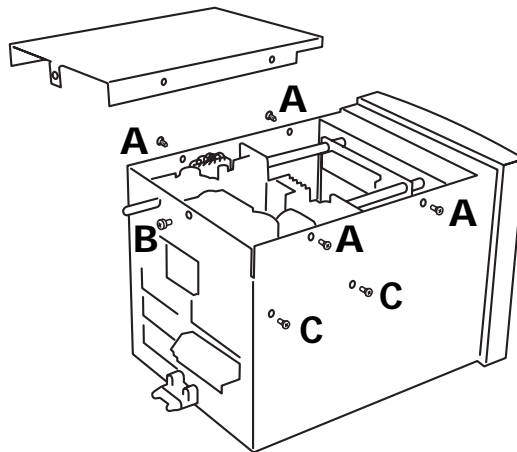

Figure 10.3a Top cover removal
1. Remove the top plate of the unit by removing the four M2.5 countersunk-head securing screws ('A' in figure 10.3a) and the M3 pan-head screw ('B' in the figure).